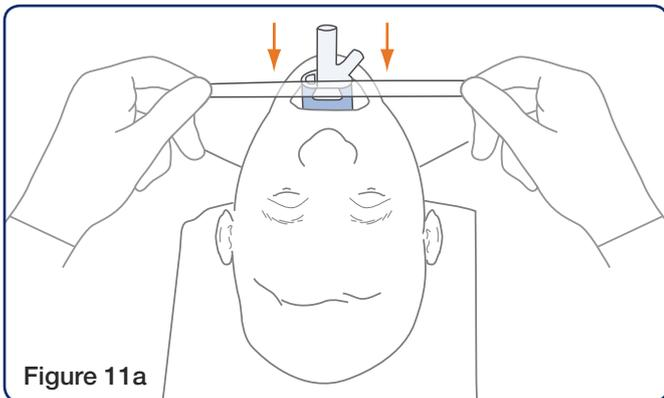
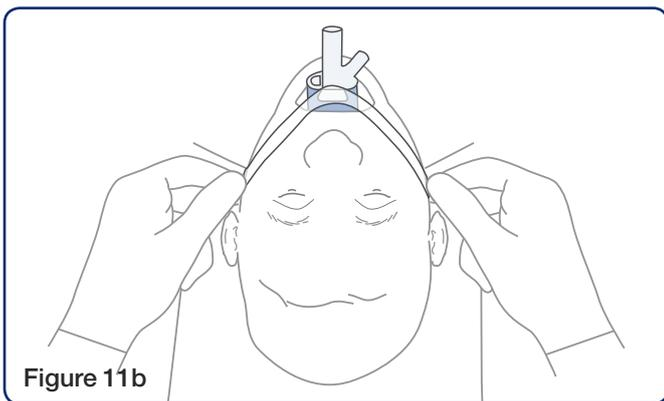

Figure 11a
Figure 11b
**Figure 11:** Fix the device in place using adhesive tape. Stretch the adhesive tape as shown (See Figure 11a) to ensure that the middle of the tape is pressed vertically downwards over the tab (Figure 11b).